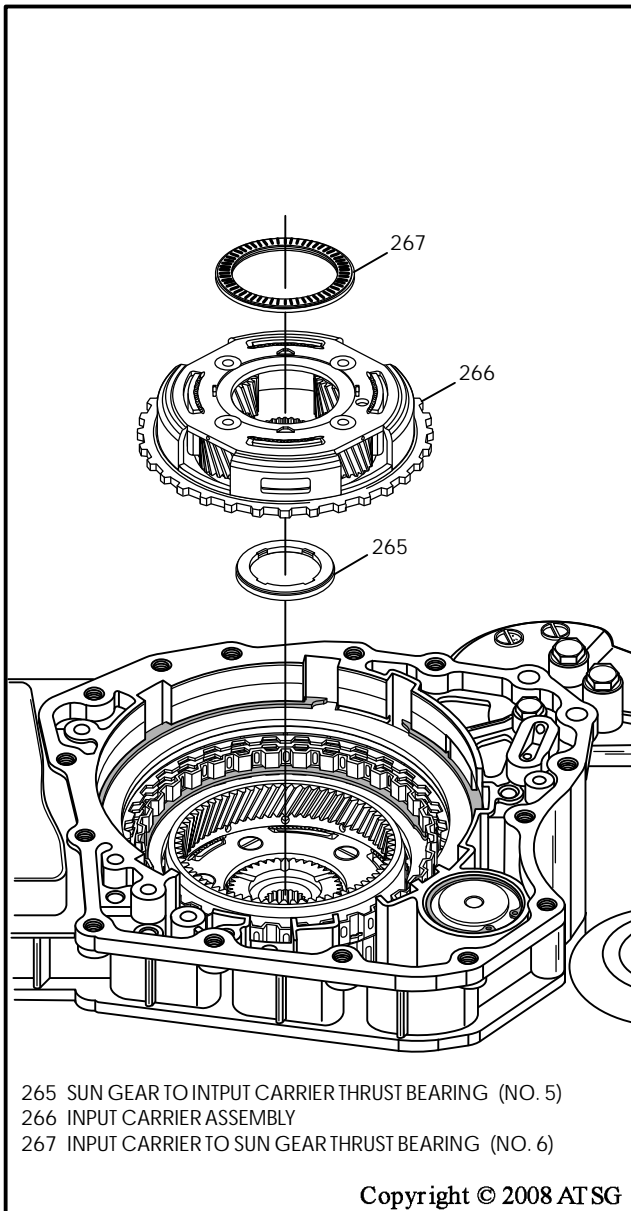

Figure 55
61. Remove the number 6 thrust bearing and the input carrier assembly, as shown in Figure 55.
62. Remove the number 5 thrust bearing assembly, as shown in Figure 55.